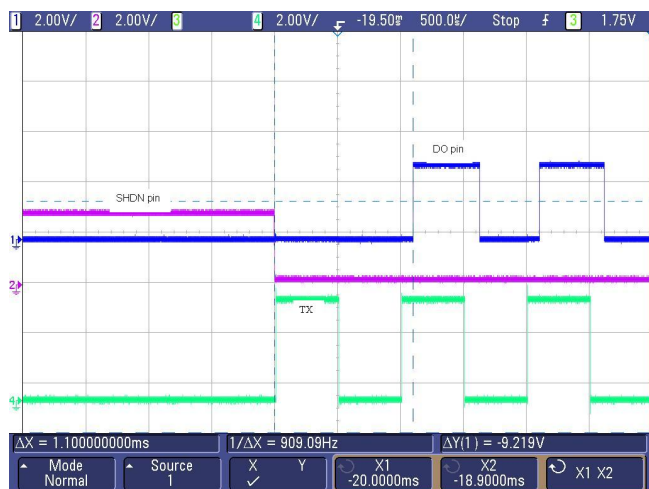

Figure 13. Time-to-Preamble Data after Shut Down Cycle, Room Temperature
When using an external oscillator or reference oscillator signal, the maximum level should not exceed 1.5V_{PP}. See Figure 13. Channel 4 is the transmitted data, which is synchronized with the shutdown shown in the oscilloscope (channel 2). Data out is shown on channel 1 and, as seen below, the preamble data starts to appear just over 1msec after the shutdown pin cycle low to high. Also note that when squelch is used time for data to appear is increased.
Programming the device is accomplished by the use of pins DO and SCLK. Normally, pin 10 (DO) is outputting data and needs to switch to an input pin made by the start sequence, as shown at Figure 13. A high at the SCLK pin tri-states the DO pin, enabling the external drive into the DO pin with an initial low level. The start sequence is completed by taking SCLK low, then high while DO is low, followed by taking DO high, then low while SCLK is high. The serial interface is initialized and ready to receive the programming data.